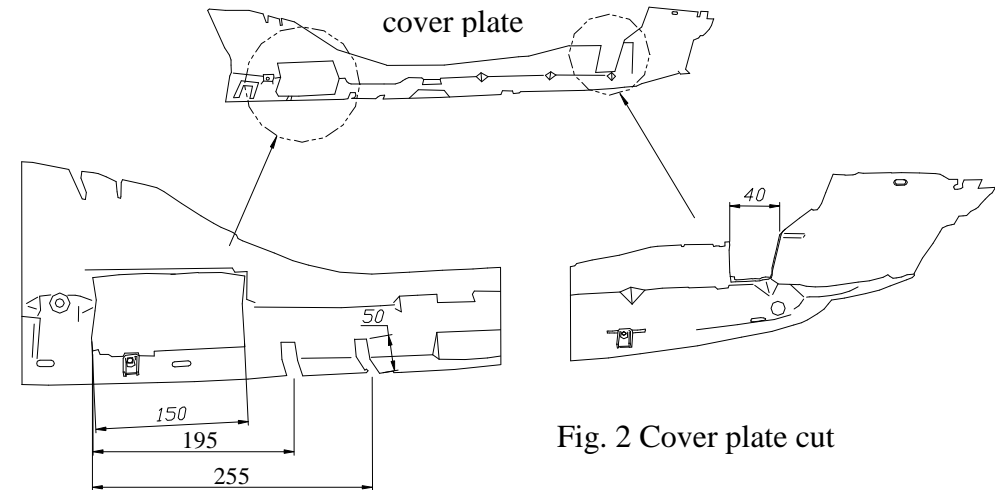

Fig. 2 Cover plate cut
3. Assemble cover plate, before install cut out his fragments according to figure 2.
4. Put main bar of the towbar pos. 1 between fixed side brackets and twist on bolts M12x35mm (pos. 6).